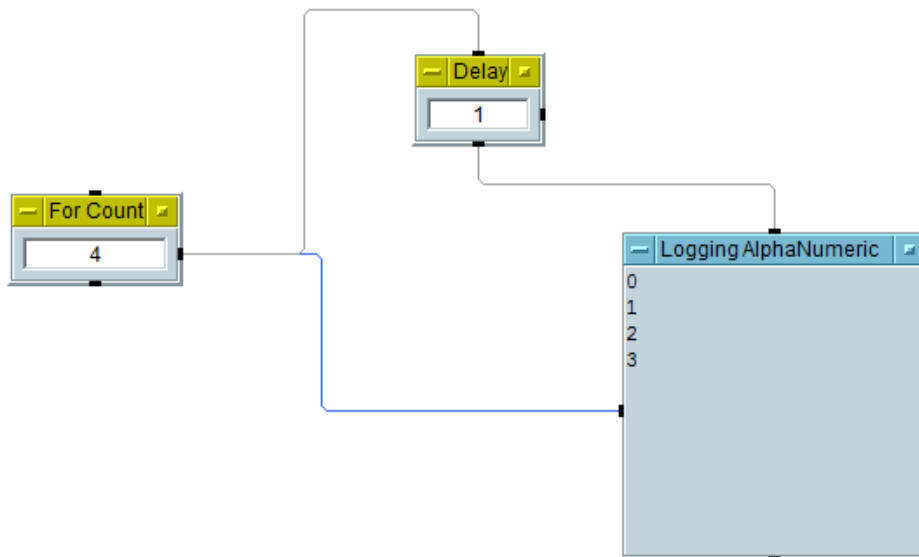

Fig. 27. Displaying all values of For Count in sequence with 1 second delay
- As you run the program, Logging AlphaNumeric will display 0, 1, 2 and 3 in sequence with 1 second period as in Fig. 27.